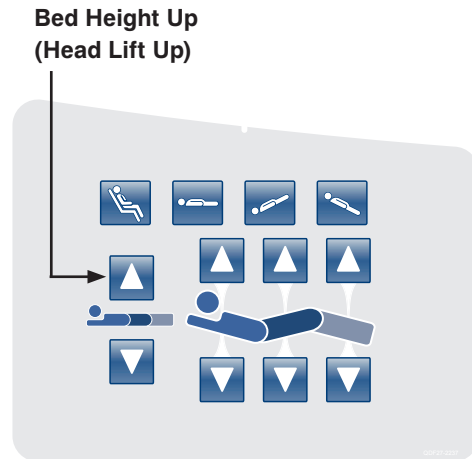

Figure 17: Head Siderail Control Panel - (Right Side Shown)
19. Place the bed at -12 degrees Reverse Trendelenburg by pressing the **Bed Height Up (Head Lift Up)** button as shown in Figure 17 below. Verify -12 degrees \pm 0.1 with the inclinometer you previously placed on the bottom of the litter frame in step 11.